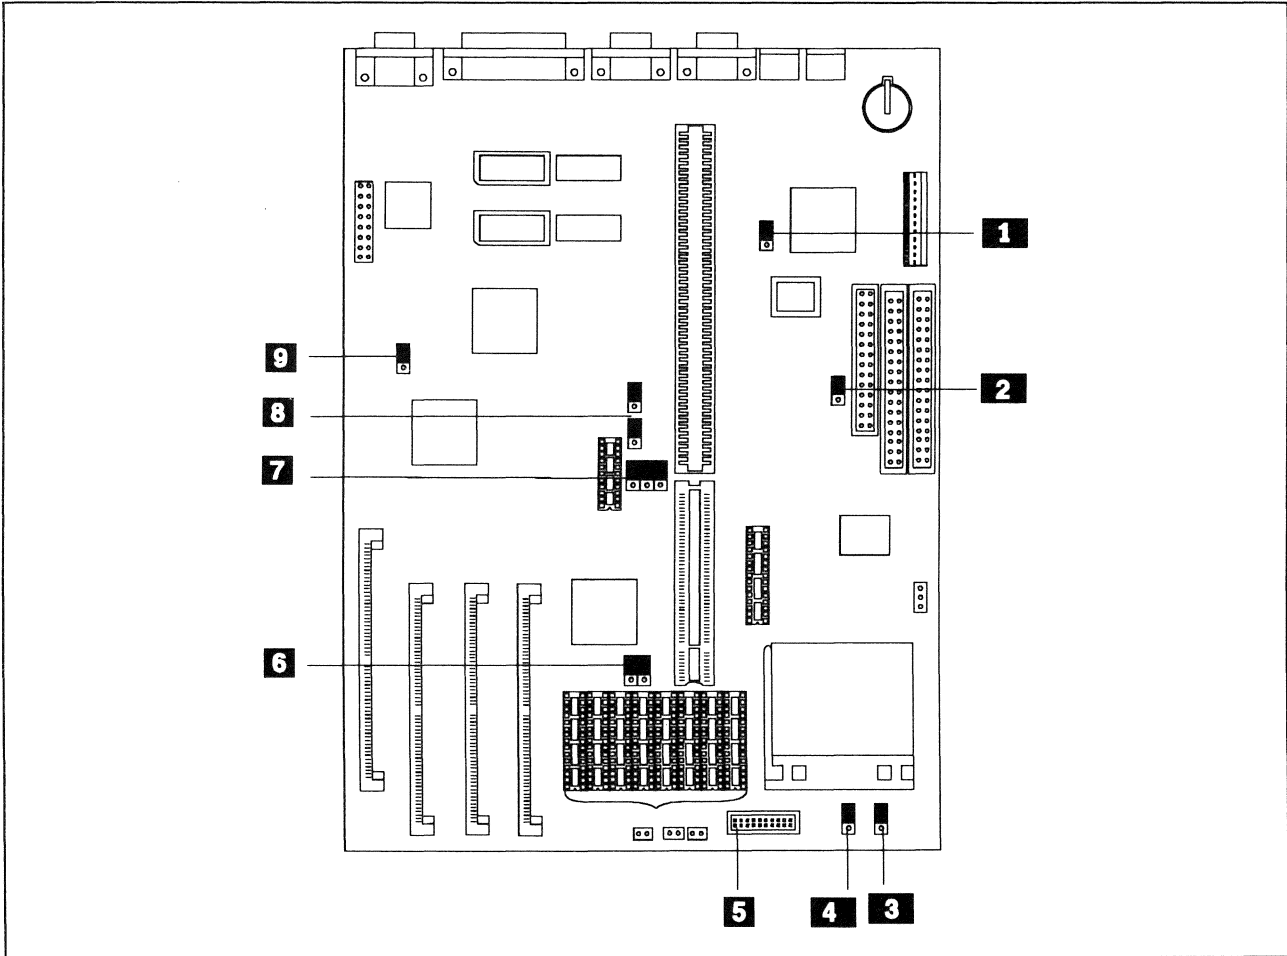

Figure 4-9. System Board Jumper Locations
- b. The microprocessor-voltage jumper block (5V/3V, item 5 in Figure 4-9 on page 4-36) is different from the other jumpers on the system board. This jumper block is always present.
Figure 4-9 shows the location of each jumper on the system board, followed by a description of each. The jumper settings are imprinted on the system board next to the respective jumpers.